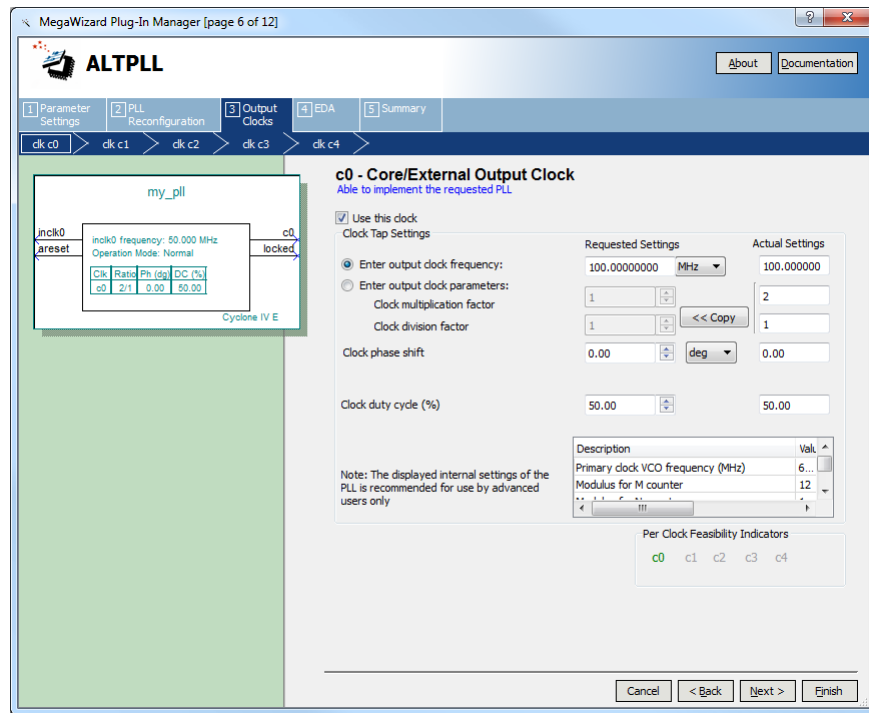

Figure 15. Settings for output c0.
- Under the **Output Clocks** tab, enter 100 MHz after selecting **Enter output clock frequency** as shown in Figure 15. This will cause the PLL to output a 100-MHz clock for the system clock `sys_clk`. Click **Next** to go to the `clk_c1` section.